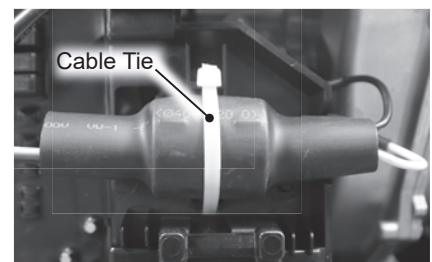

Figure 24 - Cable tie removal.
**10** Locate the push mount cable tie as shown in Figure 24. Use pliers to compress the wings and pull the user interface module wire to free it from the assembly.
**21** Remove the cable tie shown in Figure 24. Route the now loose wiring away from the control board.